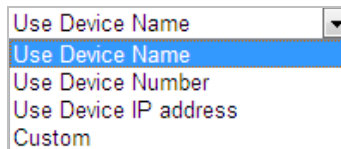

Figure 6-12 Parent Directory
- ◆ **Parent directory:** The files will be saved in a folder in FTP server. The name of folder can be defined as shown in following Figure 6-12.